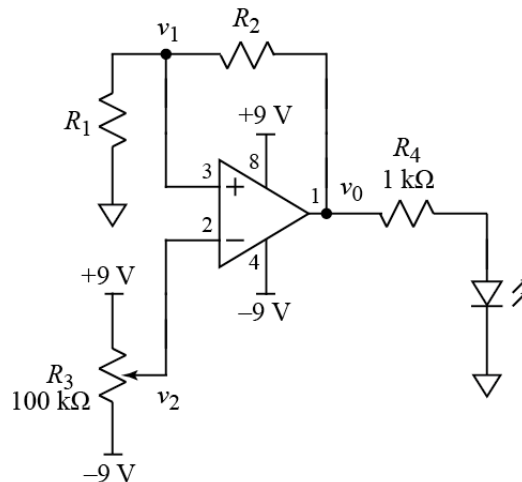

Figure 5. Schmidt trigger.
Fig. 5 shows the second circuit you are to build for Lab 2. This circuit is called a Schmidt trigger and is used to output signals that latch high and low once the input signal (from R_3) passes a threshold voltage. The circuit extends the comparator circuit by using a reference or trigger voltage, v_1 , that is no longer equal to 0 V. The circuit also extends the comparator circuit by using positive feedback from the output to control v_1 . An interesting property of the circuit is that, once the output of the op-amp goes high or low, the trigger voltage, v_1 , shifts so that v_2 has to shift by a large amount to make the output change again. This property is called "hysteresis" and means the circuit has memory. We are interested in the Schmidt-trigger circuit because our oscillator circuit will use this memory feature to temporarily latch high and low as it generates a square wave.
2) Build the complete Schmidt trigger circuit shown in Fig. 5: connect op-amp power supplies, now shown by the flat lines labeled +9 V and -9 V, to the power supply in the same way they were connected in Lab 1.